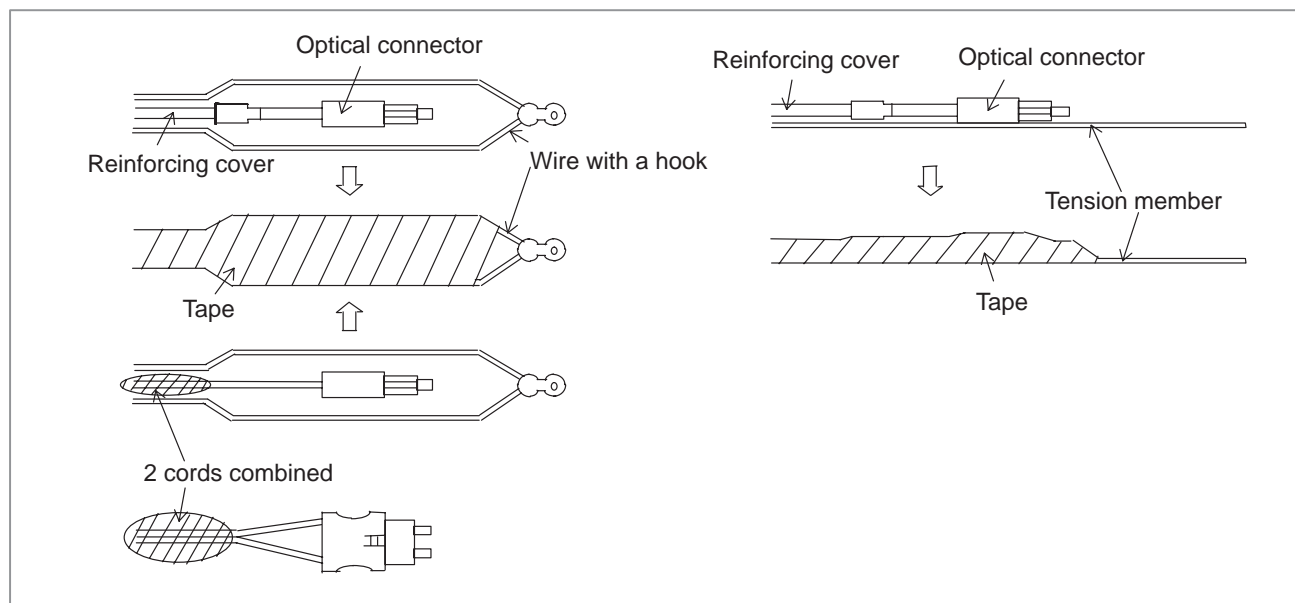

Fig. D.4 Prior to installing a cable
(2) Optical fiber cable
- Before installing an external cable, fix either a wire with a hook or a tension member to the reinforcing cover of the optical connector and pull the wire or tension member, as shown in Fig. D.4. This is done to prevent a tensile force from being applied between the fiber cord and connector. If no tensile force is applied between the fiber cord and connector when installing the cable, you can hold the reinforcing cover of the connector directly and pull it. In the case of an internal cord, which does not have a reinforcing cover, apply the same protective measures, as instructed in Fig. D.4, for that portion of the cable where the two cords are bound together, in order to prevent a tensile force from being applied between the fiber cord and connector. In the same way as for an external cable, if no tensile force is applied between the fiber cord and connector during installation, you can hold the shielded part of the cable directly and pull it. Because the combined tensile strength of the two cords is only 14 kg, however, avoid applying too great a force to the cable during installation, regardless of whether you have taken the protective measures.